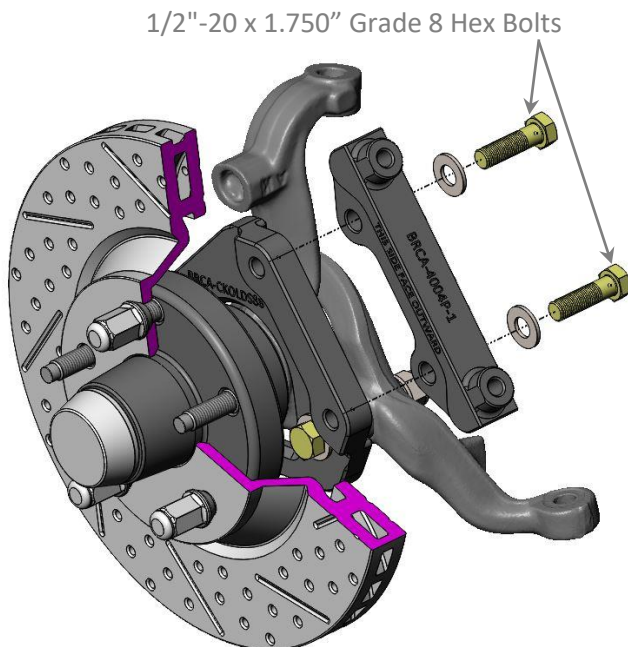

Figure 6a – Primary Caliper Bracket Installation (LH Shown)
9. Mount the Primary Caliper Mounting Bracket to the previously installed Secondary Caliper Mounting Bracket using the supplied 1/2"-20 x 1.75" Grade 8 Hex Head Bolts and 1/2" SAE Flat Washers. **NOTE: Only snug these bolts at this time because during the caliper shimming process in a later step this will be the location where shims will be installed.** See Figure 6a and 6b below for reference.